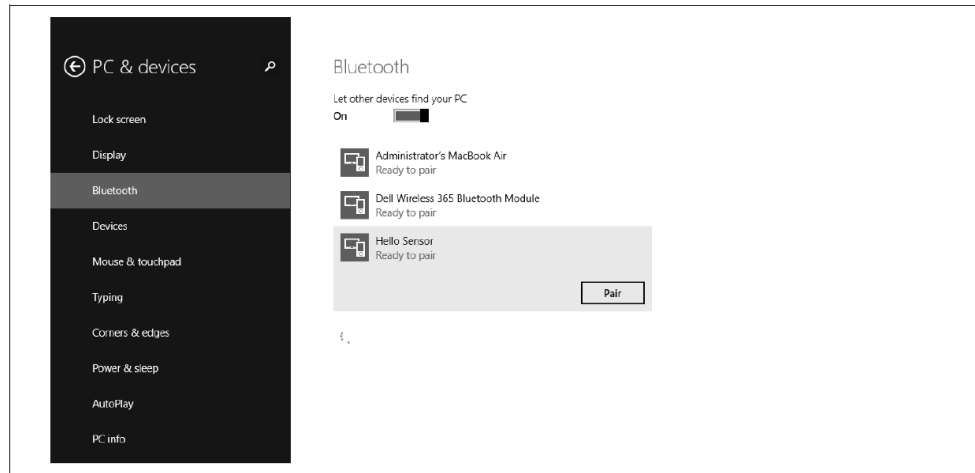

Figure 7: Windows Bluetooth Pairing Screen
7. Click **Change PC Settings** and select **Bluetooth** tab (see Figure 7).